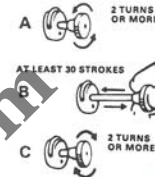

Fig. 5
2. Test Pump - With pump knob in closed position (turn right), place thumb over hole in pump knob (Fig. 5) and pump. If little or no resistance is felt, lubricate pump with a few drops of light oil, or replace pump leather. (See "To Replace Pump Leather"). If pump resists, proceed to Step 3.
3. Open pump knob by turning two (2) turns to left.
4. With thumb over hole in pump knob, pump 30 or more strokes of air into tank. (Fig. 5)